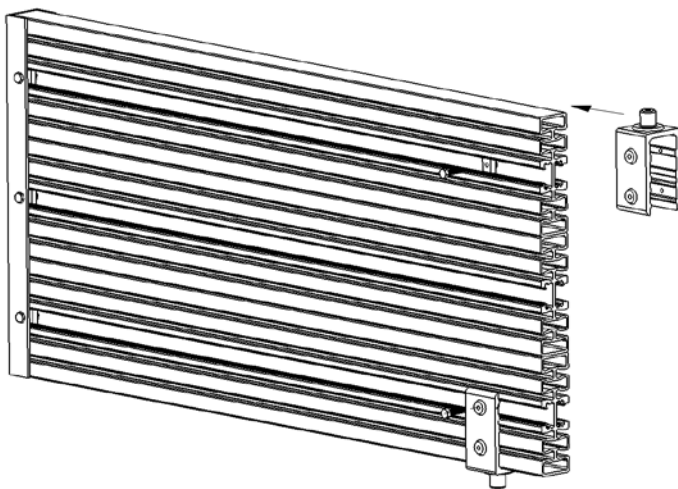

FIGURE 2a
Working from the opposite side of the attached U-Channel, insert (4) Channel Nuts **P/N 2023** into both sides of center channel on the top and bottom Pac Trac sections. Slide Pivot Bracket modules **P/N 1091** onto top and bottom Pac Trac sections as shown in **figure 2a**. Align innermost hole with channel nuts and attach screw **P/N 2038**. Brackets may need to be spread open slightly to attach.